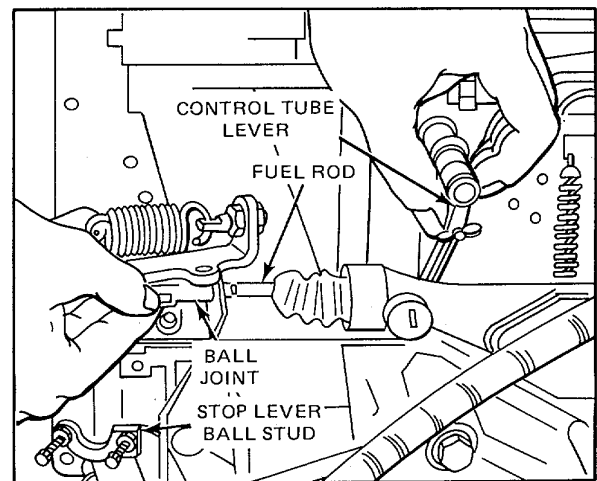

Figure 2. Adjusting Governor Spring Eyebolt
1. Adjust the variable speed spring eyebolt until 1/8 inch of the threads project from the outer locknut (Fig. 2).